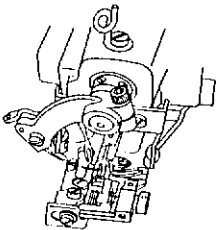
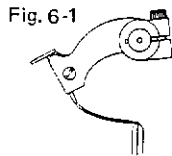

Fig. 5
Fig. 6-1
8. Adjusting Rib to Needle (Figs. 5 & 6)
Press knee lifter to depress feed frame and turn handwheel away from operator (clockwise) until point of needle is at slot in cloth retainer (shoe) (Fig. 5). Slowly release knee lifter. The rib should JUST TOUCH THE NEEDLE (Fig. 6-1).
When needle just touches rib (Fig. 6-1), machine is set to test. To test machine, when ratio is set 2 to 1 ratio – take single layer of material, place in machine and turn machine by hand. If machine catches once, then does not catch on next stroke, machine is ready to work. Keep dialing "MORE" or "LESS" until above results are obtained on silk or any thin goods. On heavy goods, it should catch on each stroke of needle.